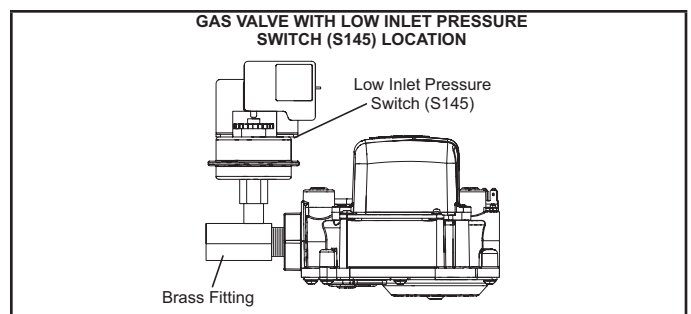

FIGURE 2
- 8 - Thread provided fitting to gas valve inlet until hand tight. Using properly sized wrench, tighten fitting 2 to 3 full turns being careful to position the side port to allow clearance for the pressure switch and harness. See figure 2 or 3.
NOTE - Some installations may require the pressure switch and fitting assembly to be positioned differently than shown in figure 2 and 3.